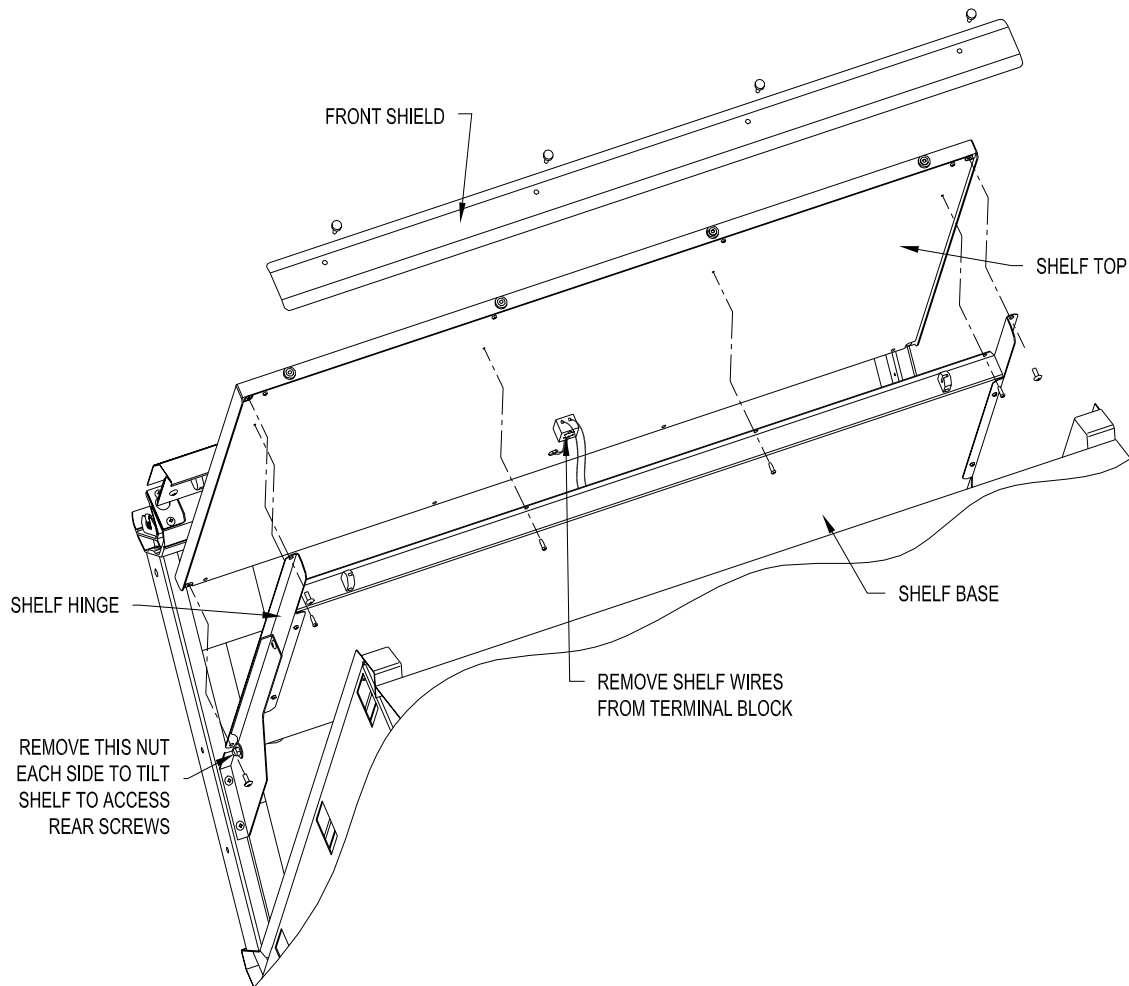

Figure 18. Shelf Top Disassembly
3. Remove the (4) screws attaching shelf top to the hinges. It will be necessary to remove the screw and nut that attach back of the hinges to the brackets and tilt the shelf forward to access the rear screws (see Figure 18).